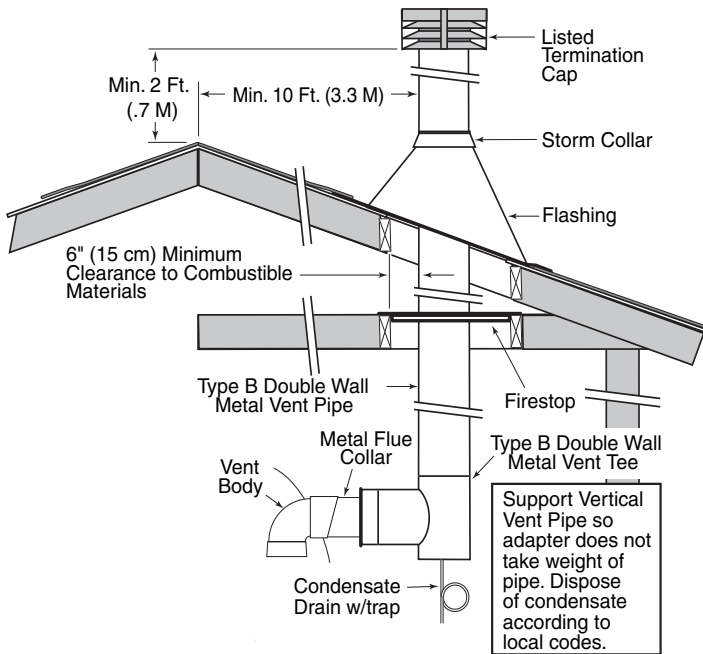

FIGURE 12A: Typical Metal Vent Pipe Installation-Canada (Vertical - Negative Pressure)
- Vent Termination – Vertical (See Figures 12A and 12B, page 13, for height of vent termination above the roof. See Table 7, Page 15, for Listed terminations.) Use a Listed vent terminal specified by local and national codes and your manufacturer's instructions. A roof termination must be vertical. In Canada, the Vent Cap location shall have a minimum clearance of 4 feet (1.2M) horizontally from electric meters, gas meters, regulators, and relief openings.